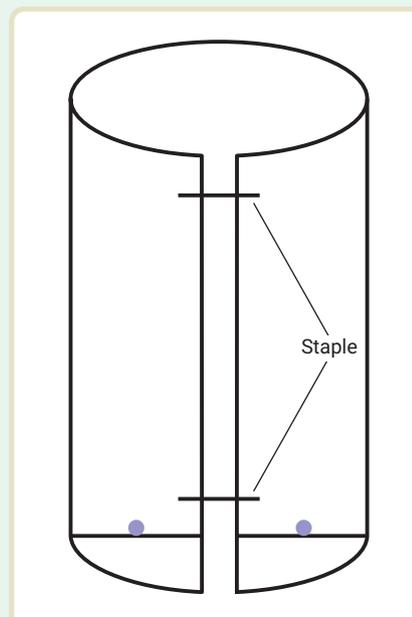

FIGURE 16.1.5 Stapling the chromatography paper
- After all samples are dry, roll the paper into a cylinder with the drops and line on the outside. Line up the top and bottom and staple towards the top and base leaving a small gap between the two edges of the paper. It is important the edges of the paper are not touching (Figure 16.1.5).